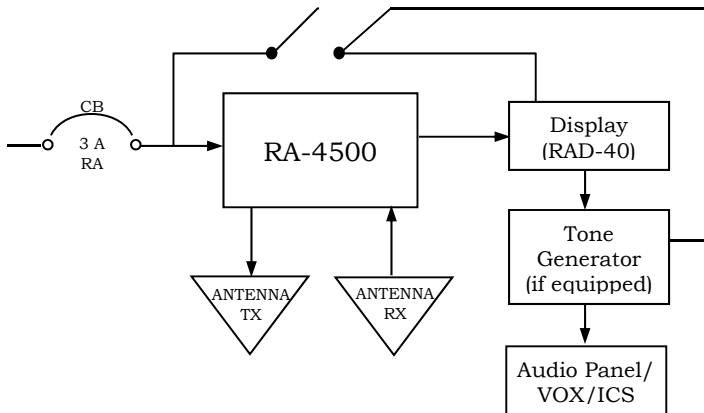

Figure 7-1. RA-4500 System Interface
1. The RA-4500 radar altimeter system installation consists of the radar altimeter receiver/transmitter, the RAD-40 radar altimeter display, and two antennas. Refer to the block diagram in Figure 7-1.